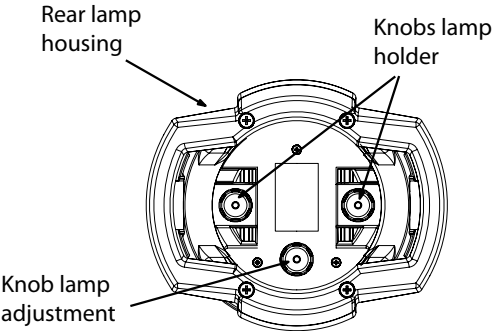

Fig.4
2. Unscrew the knobs lamp holder (fig.4).
The knobs located on the lamp housing allow you to align the lamp and adjust its field (fig.4).